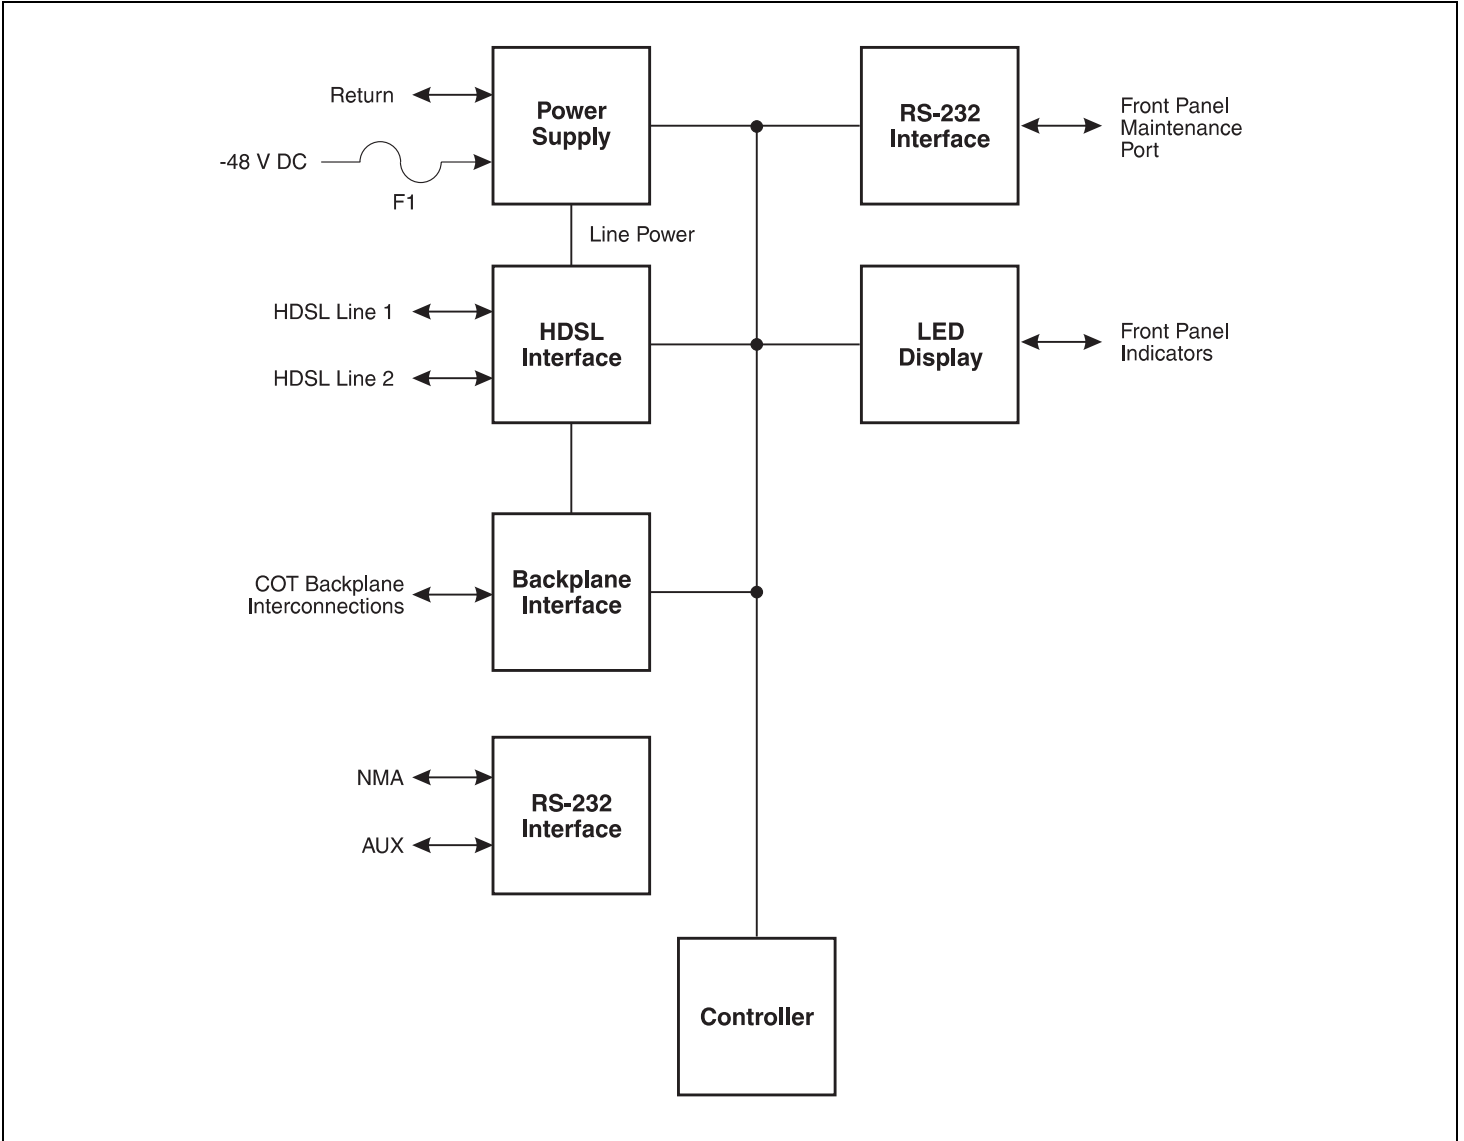

Figure 3. FRC-753 Block Diagram
6.02 A block diagram of the FLC-753 Channel Unit is shown in Figure 3. One 8-Channel RT POTS unit supports eight POTS interfaces.